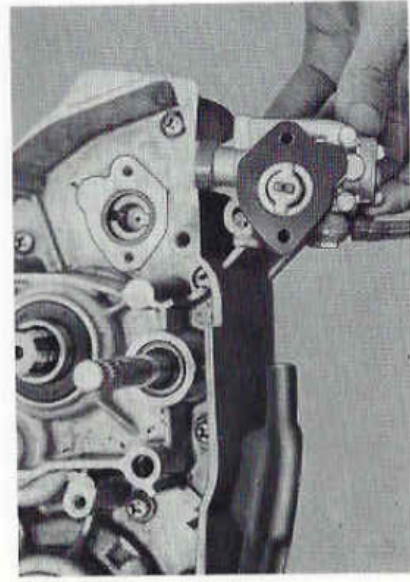

Fig. 8-3-25
18. When installing the **oil pump** on the crankcase, be sure to fit the **driving piece** on the oil pump driving worm first, and then install the oil pump. (Fig. 8-3-25)